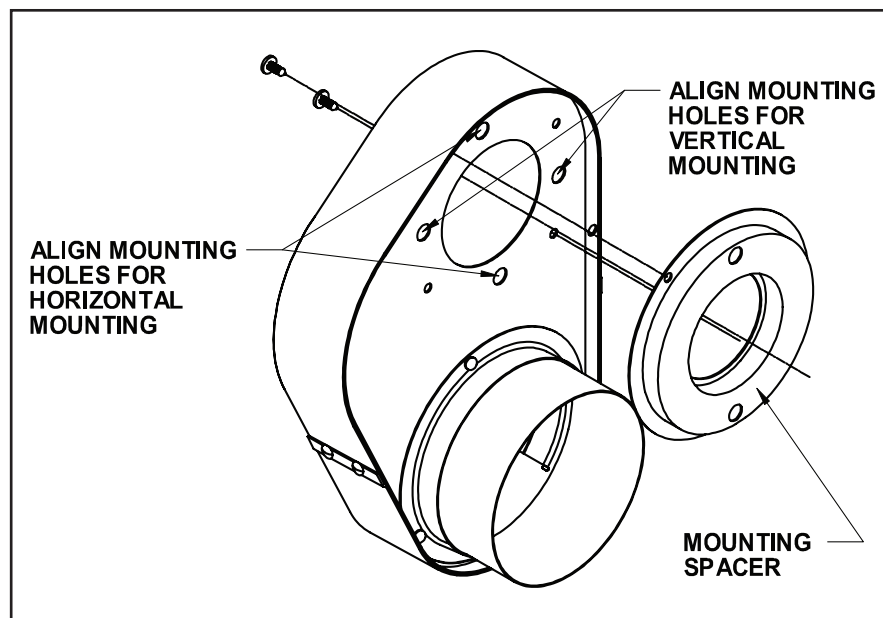
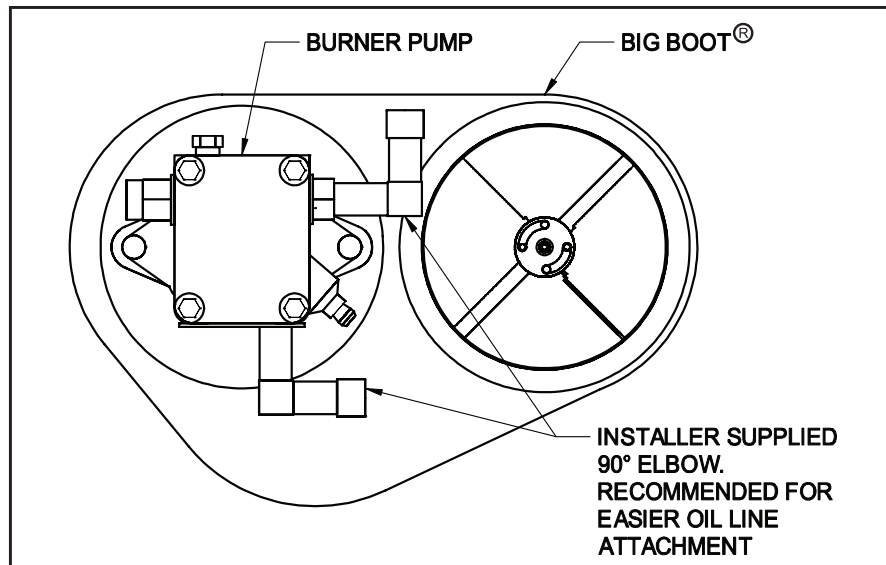
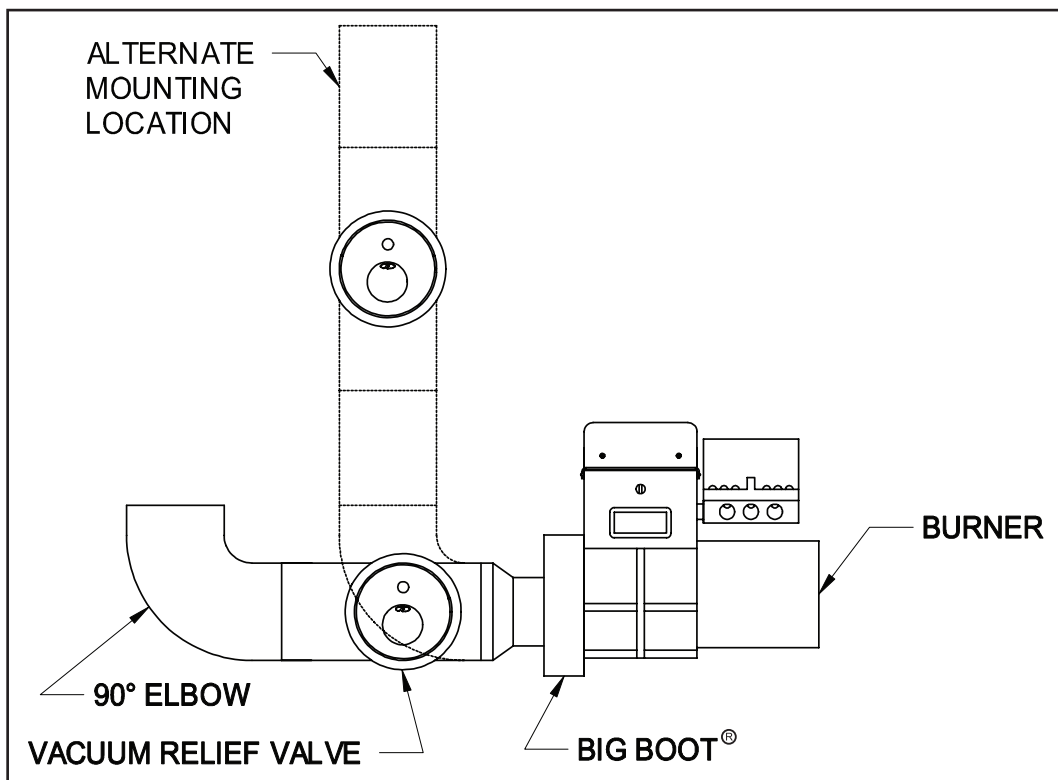

Figure 1
Figure 2
Figure 3
1. Remove the oil pump and air bands from the burner housing. Install mounting spacer onto Big Boot®. (See Figure 1) Position the Big Boot® over the burner housing on the intake. The Big Boot® can be mounted onto the burner in a horizontal or vertical position. (See Figure 3) Align the holes in the Big Boot® with the holes in the housing and re-attach the oil pump. (See Figure 2) Note that the Big Boot® may be oriented either vertically or horizontally as space allows.
2. Mount the 5" to 6" increaser onto the Big Boot® then mount the VRV tee assembly or 90° elbow. Fasten using three (3) sheet metal screws on all joints. (See Figure 3)